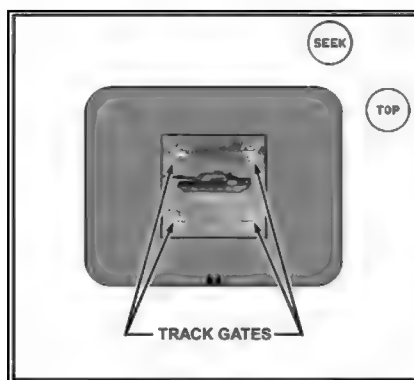

Figure 2-14. Track gates.
c. **Track Gates.** The track gates (Figure 2-14) are used by the gunner to lock the seeker on target. The gunner activates the seeker and the track gates appear and flash in the CLU display. The track gates are a visual indication the seeker is active but not locked on the target.